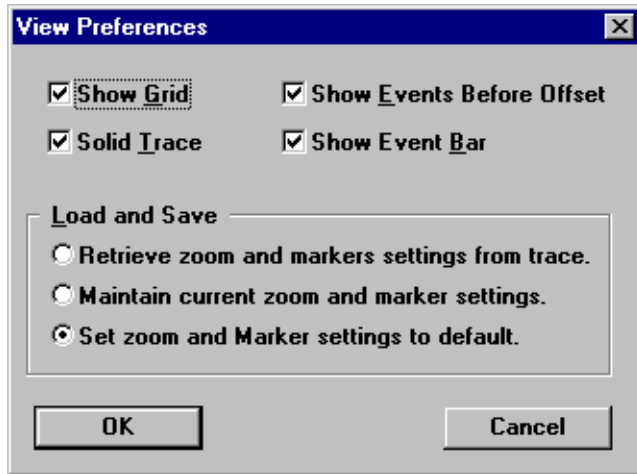

Figure 2-8
- 4 You see a window headed View Preferences (Figure 2-8).